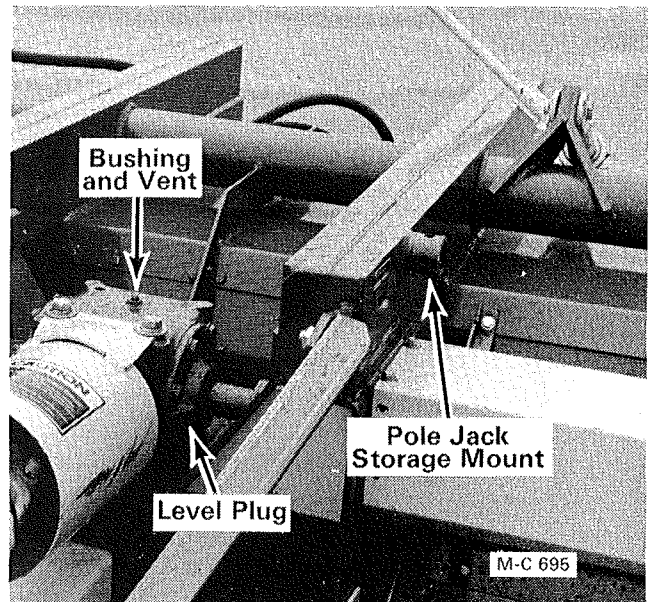

Figure 11 - Model 2408 Shown
1. Remove the oil level plug on the left side of the gear box, see Figure 11 page 8. The oil level should be even with the bottom of the level plug. If the oil level is low, remove